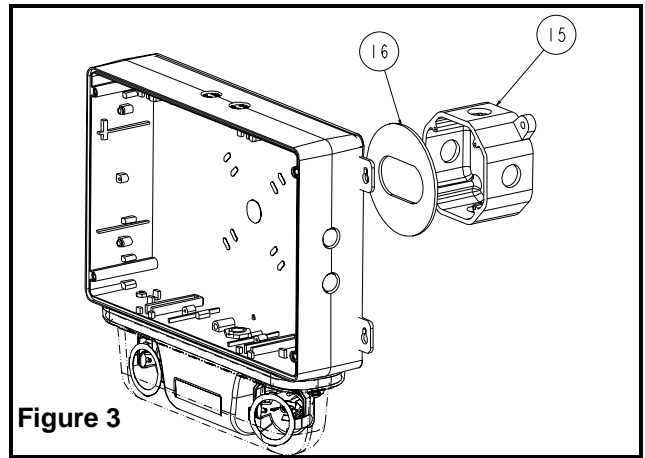

Figure 3
- Remove appropriate knock-outs on back plate for installation on junction box (see figure 3).